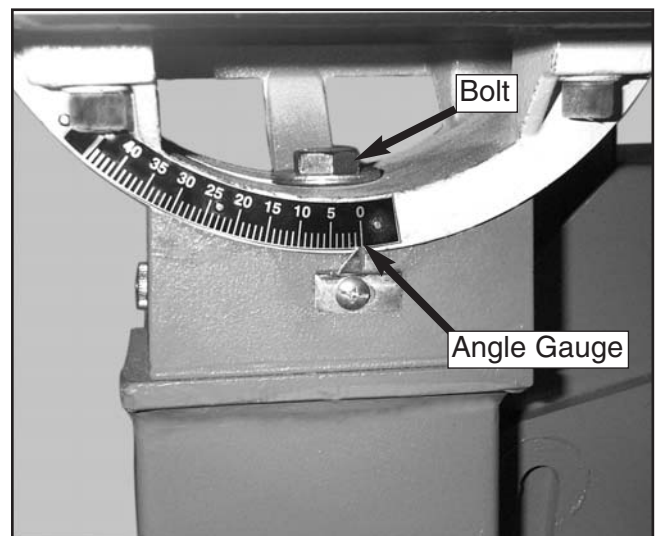

Figure 18. Loosen the bolt to tilt the table.
1. Loosen the large hex bolt under the table and in the center of the table trunnion as shown in **Figure 18**.